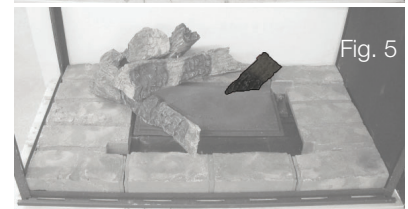

Fig. 5
- Place log #5 onto the pin located in the left side hearth pad and let it rest on the burner **(FIG.5)**.